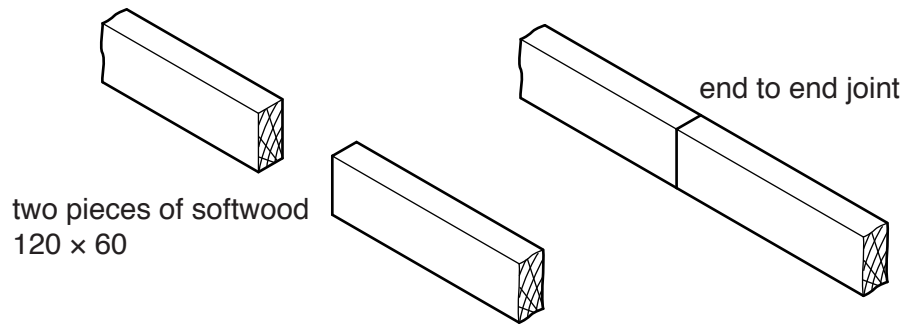

Fig. 8
- (c) Fig. 8 shows two pieces of softwood that must be joined end to end to extend the length of a beam.